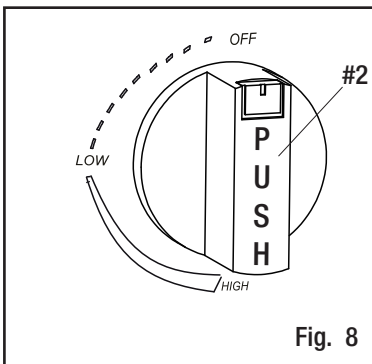

Fig. 8
1. Make sure control knob (#2) is on the “OFF” position on the control panel. (Fig. 8)